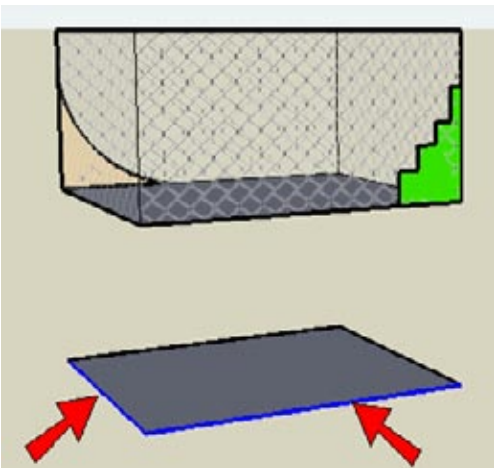

Figure 4-53
6. Because the fence box is a group, you can't select edges within it to define a Follow Me path. So you'll use the edges of the face you copied from the bottom of the box. Select the two edges of the face shown in Figure 4-53.